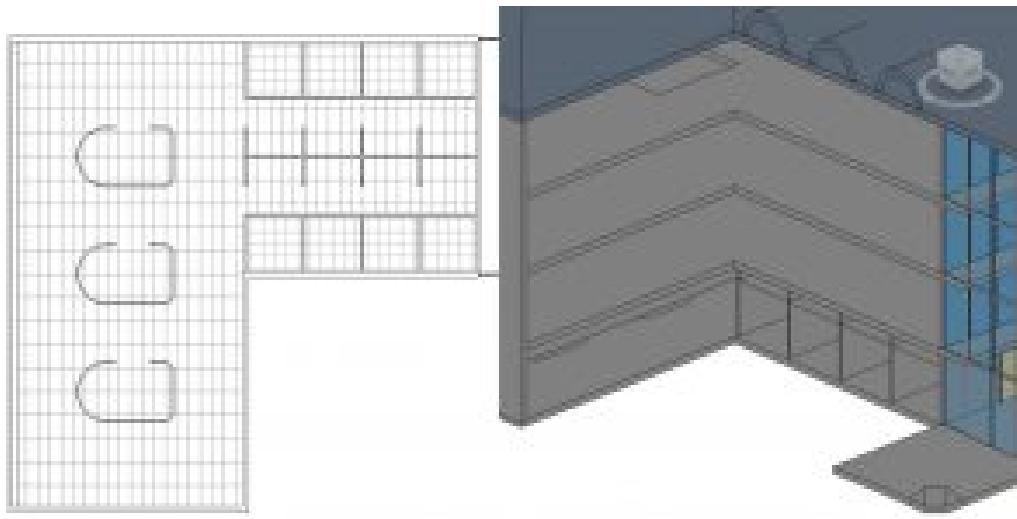

Figure 3.27 ACT Systems shown in ceiling plan and in 3D view
6. Hover the cursor over the main space, when the interior faces highlight red, click to apply the ceiling as shown in Figure 3.27 for reference